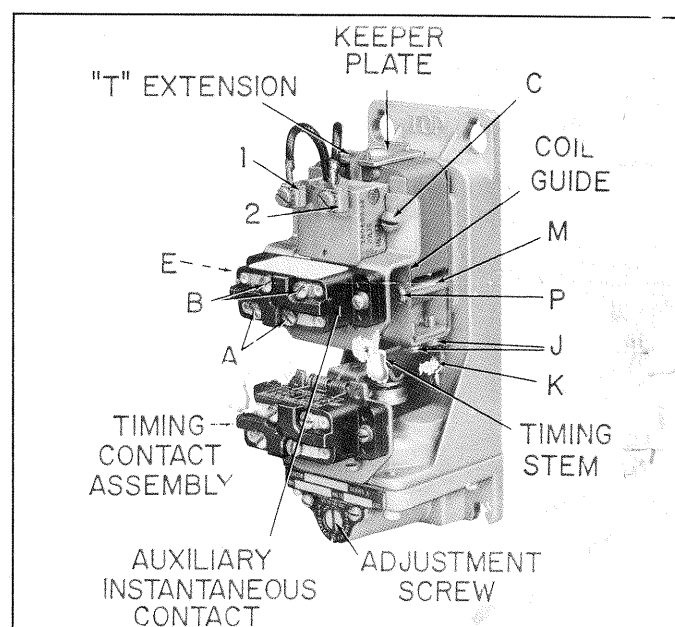

Figure 1 - Typical relay with instantaneous unit
All terminals are readily accessible from the front of the relay and the large panhead screws on the contact terminals (A & B), Fig. 1 as well as the saddle terminals (1 & 2) on the coil make for an easy job of wiring.
1. Remove screws E and P, Figure 1.
1. Remove Screws C, Figure 1.